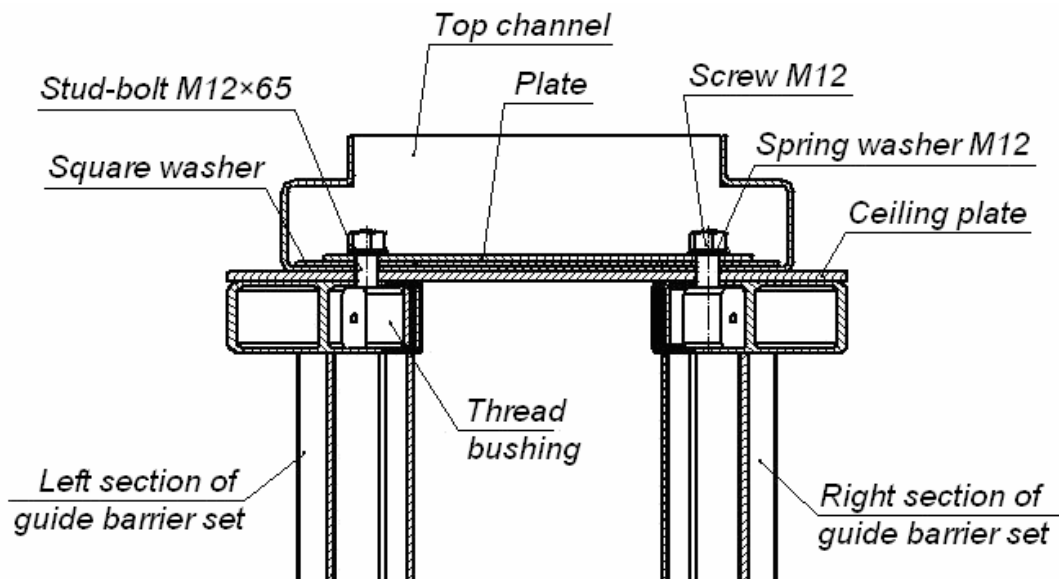

Fig. 15 Fixing the top channel (13) to the guide barrier sections (6) and (7)
- 11.6. Fix the ceiling plate end of the top channel: place two square washers on the stud-bolts, then the plate¹⁵, then two spring washers 12 and fix the top channel in place with two nuts M12 (see Fig. 15). Screw all four nuts fixing the top channel, but not tightly.